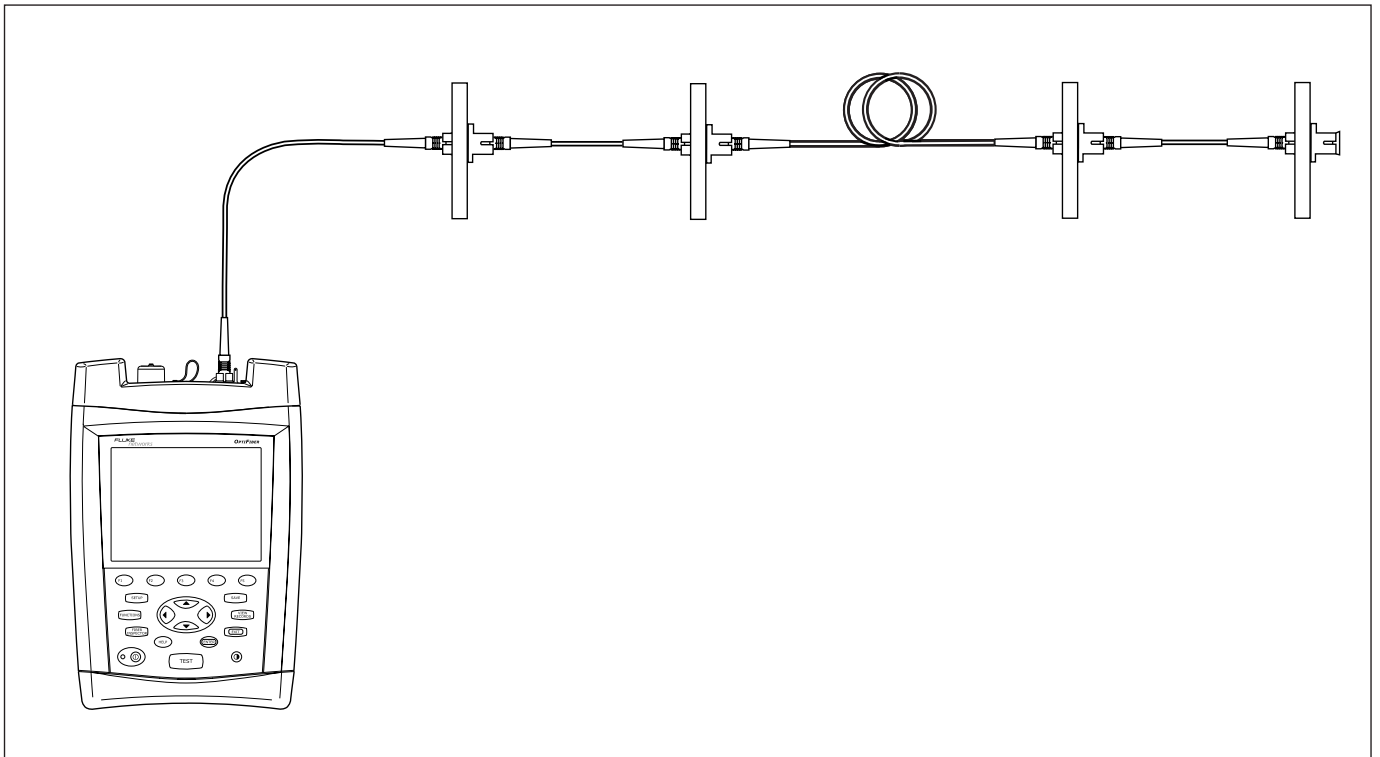

Figure 4-2. ChannelMap Test Connections
- 6 Connect the launch fiber to the OTDR port and the channel to be mapped, as shown in Figure 4-2.